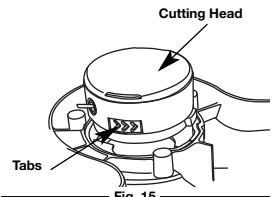

Fig. 15
1. Remove the cutting head cover by pressing in both tabs that are visible on either side of the cutting head (Fig. 15).
7. Insert the end of the line through the eyelet in the outer spool (Fig. 15).
1. Remove the cutting head cover by pressing in on both of the cutting head cover tabs that are visible on either side of the outer spool (Fig. 15).